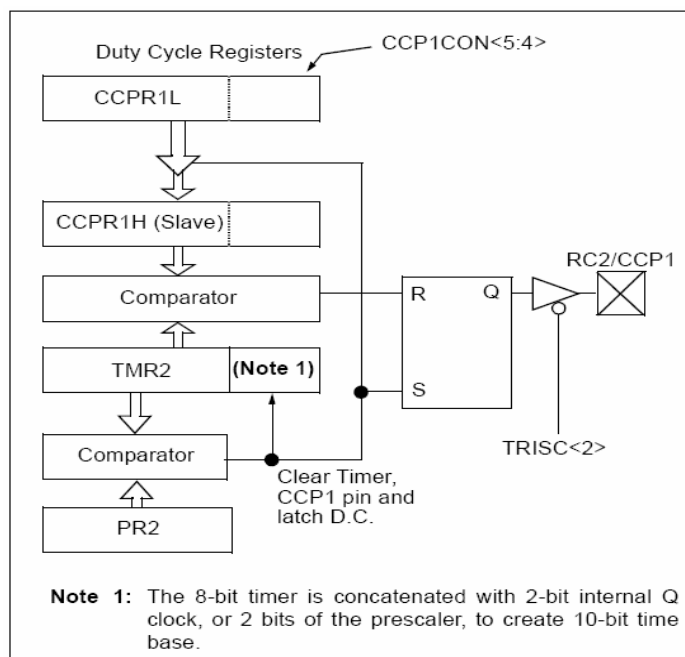
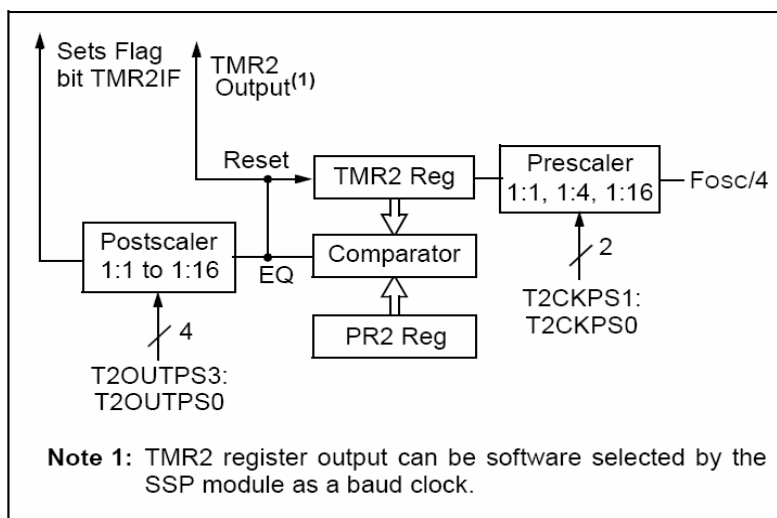

Fig Q2.2
Fig Q2.3
- (b) The block diagram of the PWM module of the 16F873A is shown in Fig. Q2.2. CCPR1L, CCPR1H, and PR2 are all registers that the program can write to or read from. The block diagram of the Timer 2 module, which works with the PWM module, is shown in Fig. Q2.3.